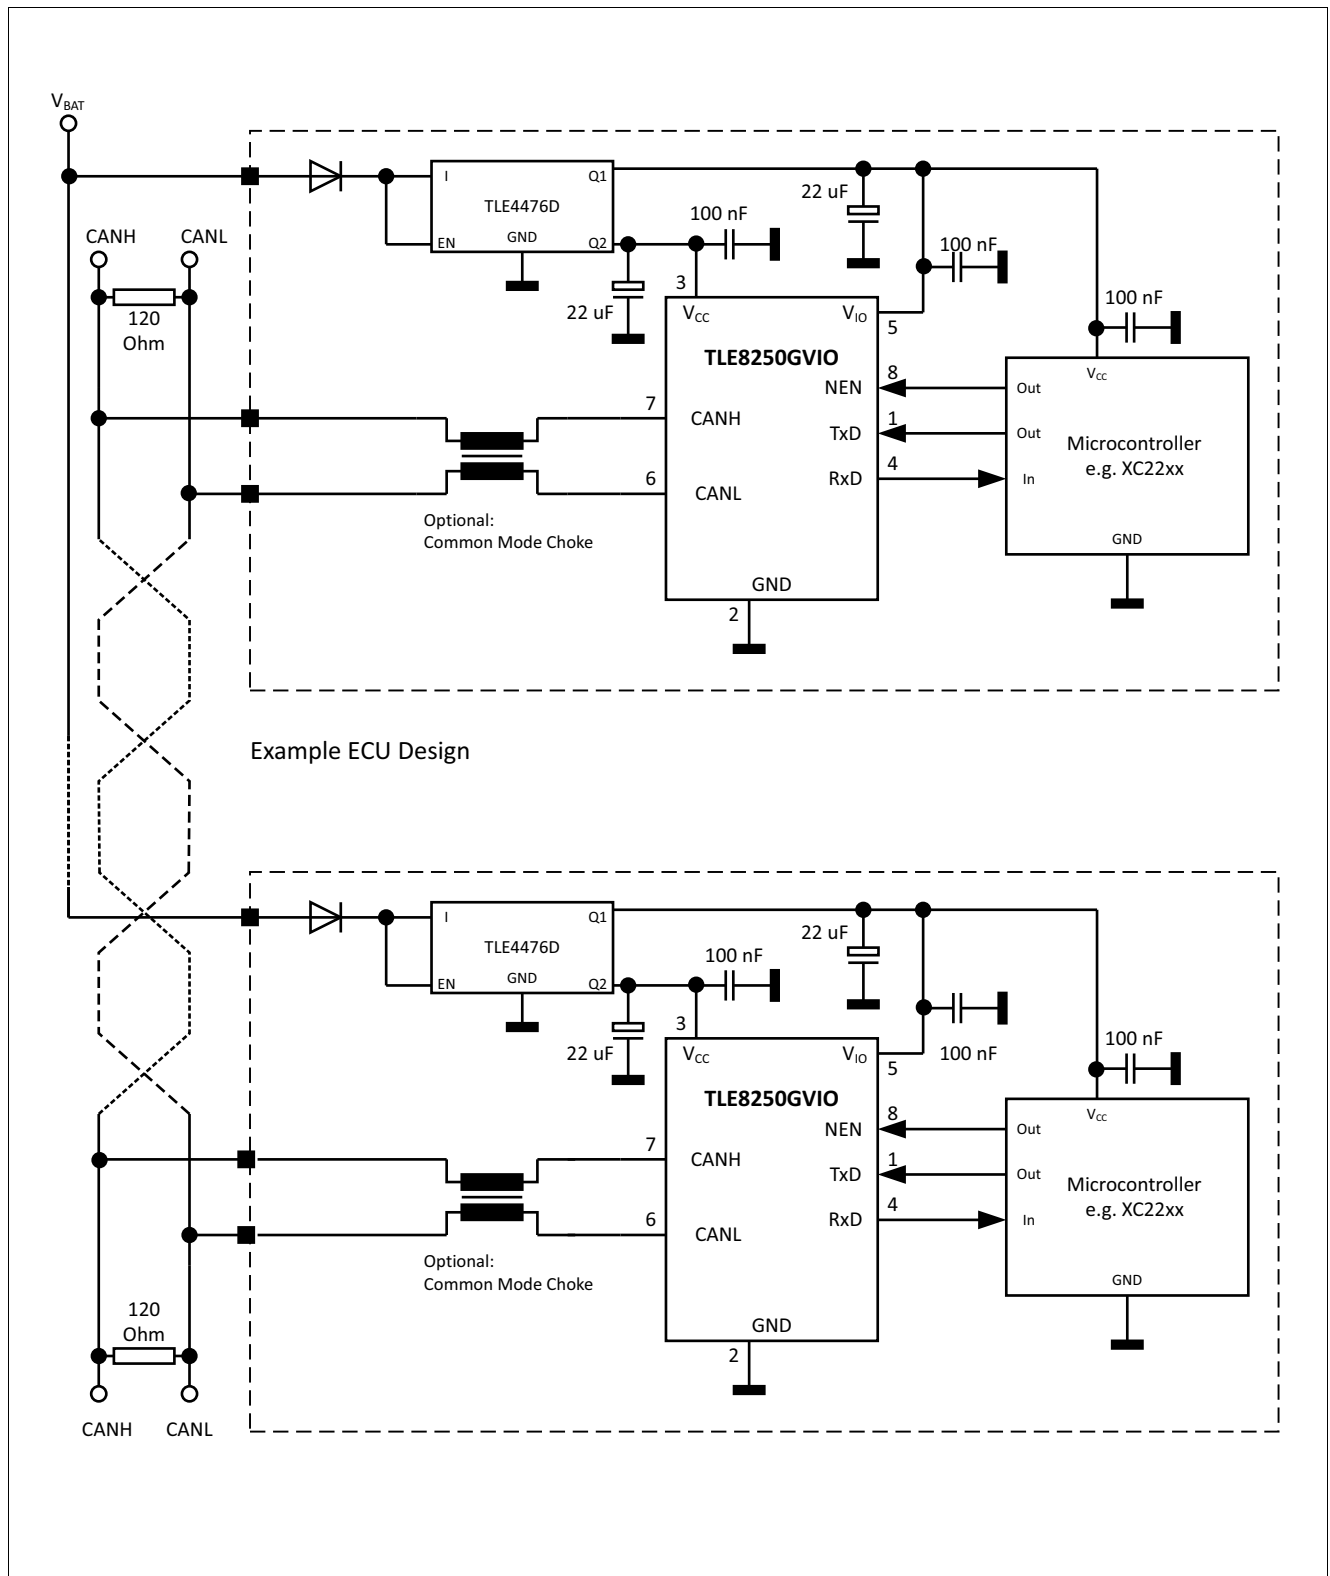
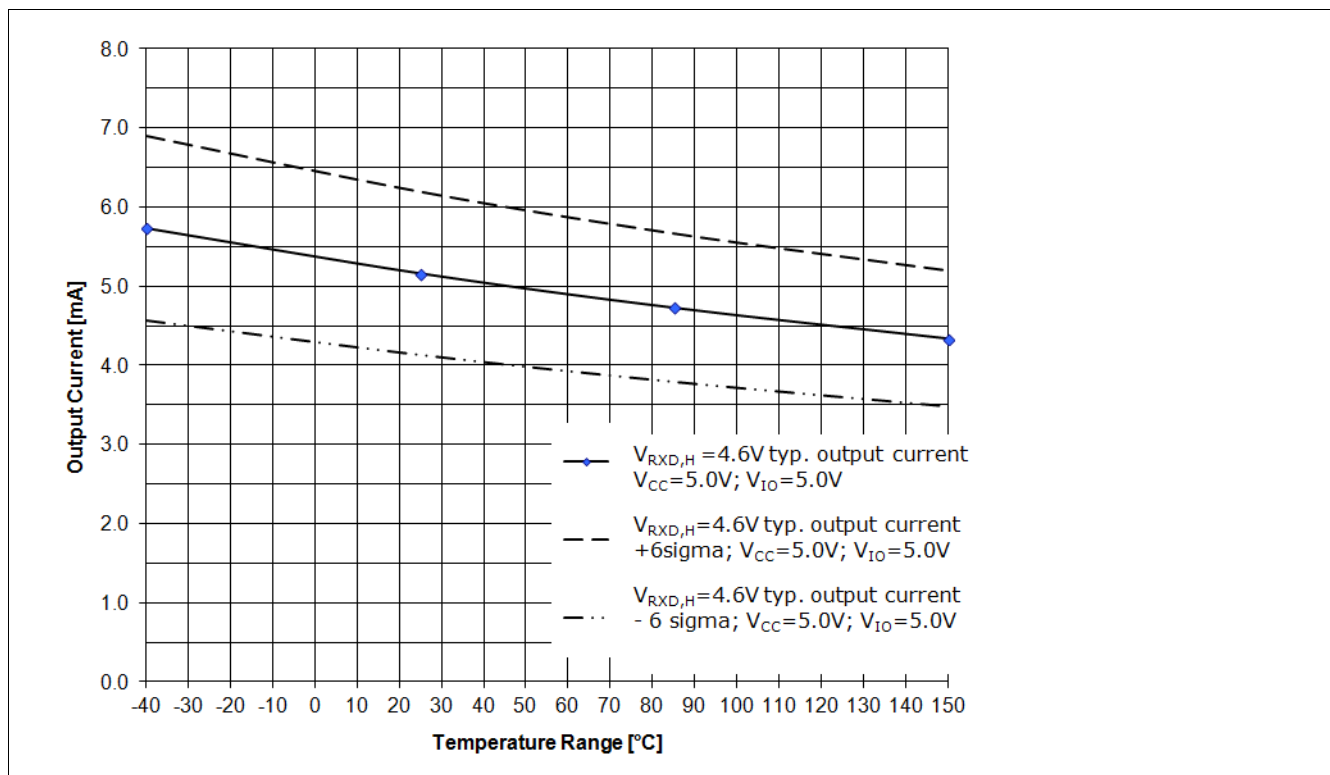
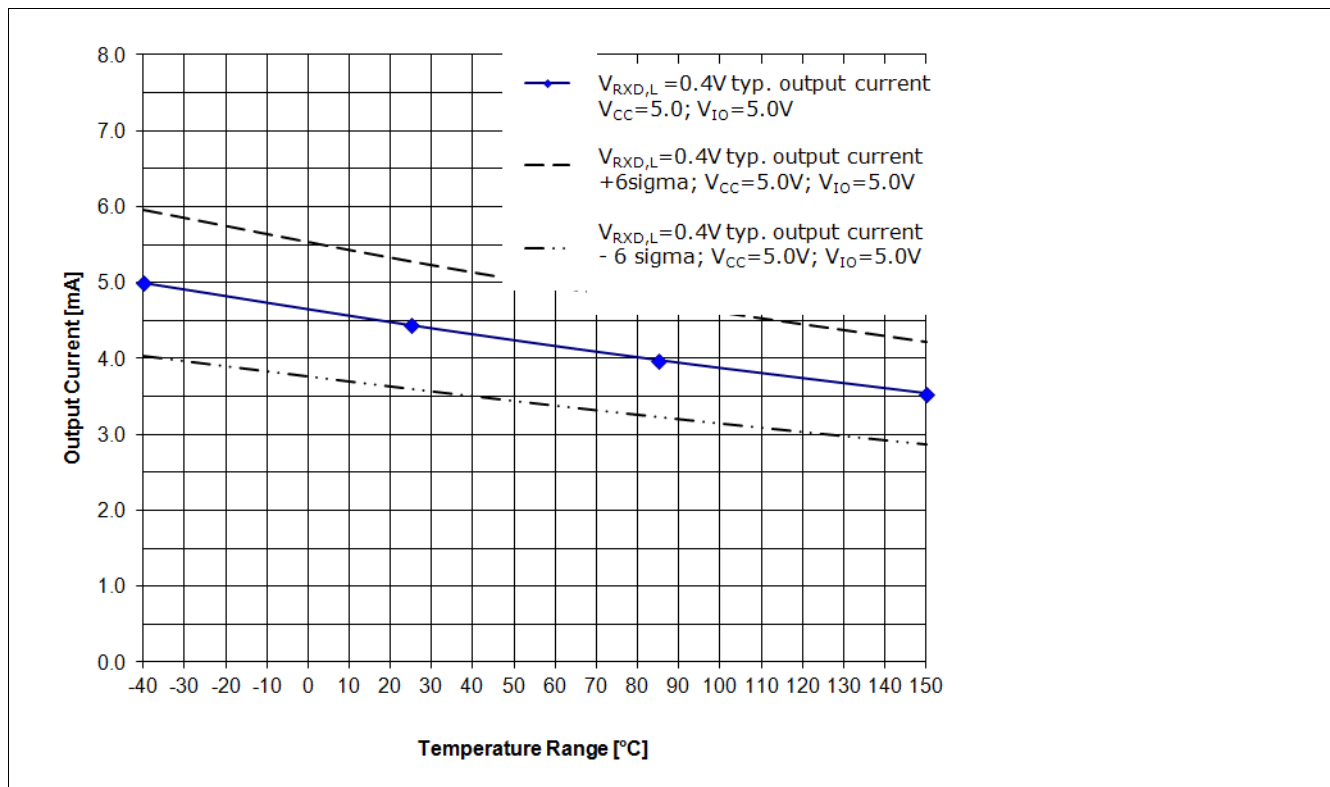

Figure 10 Simplified Application for the TLE8250GVIO
Figure 11 RxD Output driver capability for a logical “High” signal $V_{RxD,H}=4.6\text{ V}$, $V_{CC}=5.0\text{ V}$, $V_{IO}=5.0\text{ V}$ ¹⁾
Figure 13 RxD Output driver capability for a logical “Low” signal $V_{\text{RXD,H}}=0.4\text{ V}$, $V_{\text{CC}}=5.0\text{ V}$, $V_{\text{IO}}=5.0\text{ V}$ ¹⁾
The diagram in Figure 11 shows the output current capability of the RxD output pin depended on the chip temperature T_J at a V_{IO} power supply of 5.0 V. Figure 12 shows the output current capability of the RxD output pin at a V_{IO} power supply of 3.3 V.
- The curve “VRxD,H = 4.6 V; typ. output current; VCC = 5.0 V; VIO = 5.0 V;” displays the typical output current at the RxD output pin of the TLE8250GVIO (see Figure 11).
- The curve “VRxD,H = 4.6 V; typ. output current + 6 sigma; VCC = 5.0 V; VIO = 5.0 V;” displays the expected maximum value of the output current at the RxD output pin (see Figure 11).
- The curve “VRxD,H = 4.6 V; typ. output current - 6 sigma; VCC = 5.0 V; VIO = 5.0 V;” displays the expected minimum value of the output current at the RxD output pin (see Figure 11).
The diagram in Figure 13 and the diagram in Figure 14 show the current capability of the RxD output pin depended on the chip temperature T_J . Figure 13 shows the current capability of the RxD output pin at a V_{IO} power supply of 5.0 V and Figure 14 shows the current capability of the RxD output pin at a V_{IO} power supply of 3.3 V.
- The curve “ $V_{RxD,H} = 0.4\text{ V}$; **typ. output current**; $V_{CC} = 5.0\text{ V}$; $V_{IO} = 5.0\text{ V}$,” displays the typical output current at the RxD output pin of the TLE8250GVIO (see Figure 13).
- The curve “ $V_{RxD,H} = 0.4\text{ V}$; **typ. output current + 6 sigma**; $V_{CC} = 5.0\text{ V}$; $V_{IO} = 5.0\text{ V}$,” displays the expected maximum value of the output current at the RxD output pin (see Figure 13).
- The curve “ $V_{RxD,H} = 0.4\text{ V}$; **typ. output current - 6 sigma**; $V_{CC} = 5.0\text{ V}$; $V_{IO} = 5.0\text{ V}$,” displays the expected minimum value of the output current at the RxD output pin (see Figure 13).
| 1.1 | 2014-09-26 | Update from Data Sheet Rev. 1.00: <ul style="list-style-type: none"> All pages: Revision and date updated. Spelling and grammar corrected. Cover page: Logo and layout updated. Page 1, Overview: Feature list updated (“Extended supply range at V_{CC} and V_{IO}”). Page 13, Table 4, P_6.2.1: Supply range updated (“$4.5\text{ V} < V_{CC} < 5.5\text{ V}$”). Page 13, Table 4, P_6.2.2: Supply range updated (“$3.0\text{ V} < V_{IO} < 5.5\text{ V}$”). Page 15, Table 6: Table header updated (“$4.5\text{ V} < V_{CC} < 5.5\text{ V}$”). Table header updated (“$3.0\text{ V} < V_{IO} < 5.5\text{ V}$”). Page 16, Table 6, P_7.1.29: New parameter added. Page 16, Table 6, P_7.1.30: New parameter added. Page 16, Table 6, P_7.1.31: New parameter added. Page 16, Table 6, P_7.1.34: Remark added (“$4.75\text{ V} < V_{CC} < 5.25\text{ V}$”). Page 16, Table 6, P_7.1.35: Remark added (“$4.75\text{ V} < V_{CC} < 5.25\text{ V}$”). Page 17, Table 6, P_7.1.36: Remark added (“$4.75\text{ V} < V_{CC} < 5.25\text{ V}$”). Page 19, Figure 10: Picture updated. Page 20, Chapter 8.2: Description updated, renamed the term typical input current to typical output current. Page 21ff, Figure 11, Figure 12, Figure 13, Figure 14: Picture updated Page 25: Revision history updated |